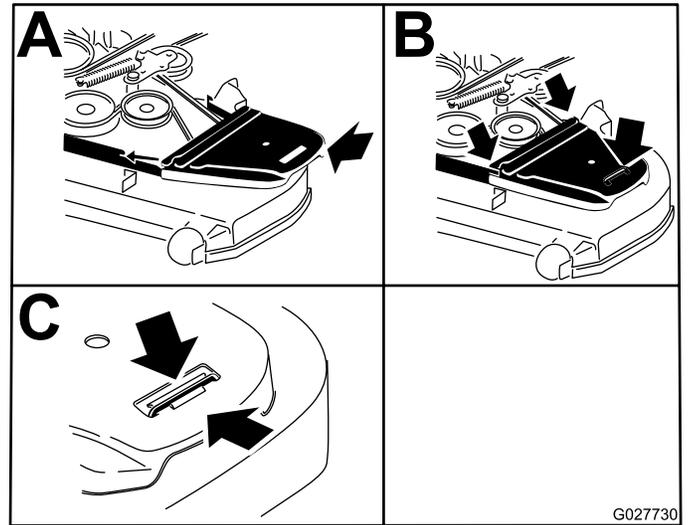

Figure 92
11. Install the belt covers (Figure 92).